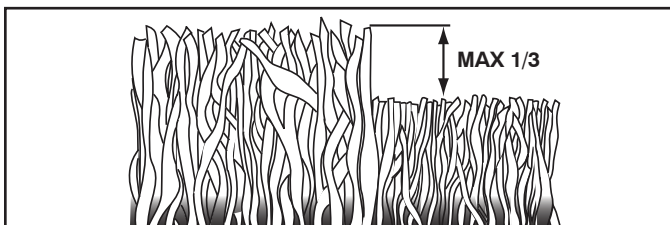

Fig. 22
- For best results, adjust the mower cutting height so that the mower cuts off only the top one-third of the grass blades (See Fig. 22). For extremely heavy mulching, reduce your width of cut on each pass and mow slowly.